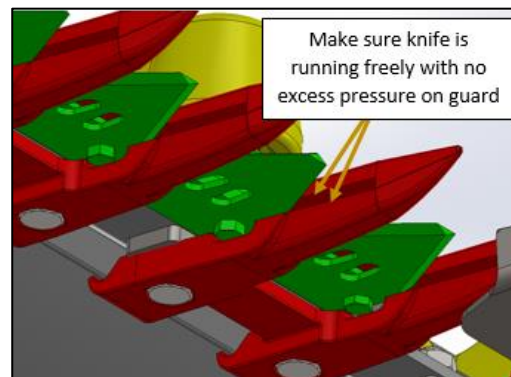

Figure 131
12. Before the knife head bearing mount bolts are tightened, we need to make sure the knife head is bottomed onto the knife head and the knife is running along the bottom of the guard. Figure 131.